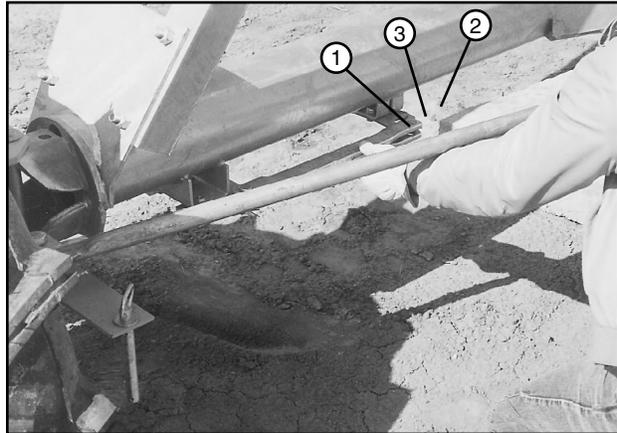

Figure 38-1 1. Tow Link Bar
5. Rotate each tow link bar into the tow link carrier until the carrier spring latches into the hole in tow link bar. See figure 38-1.